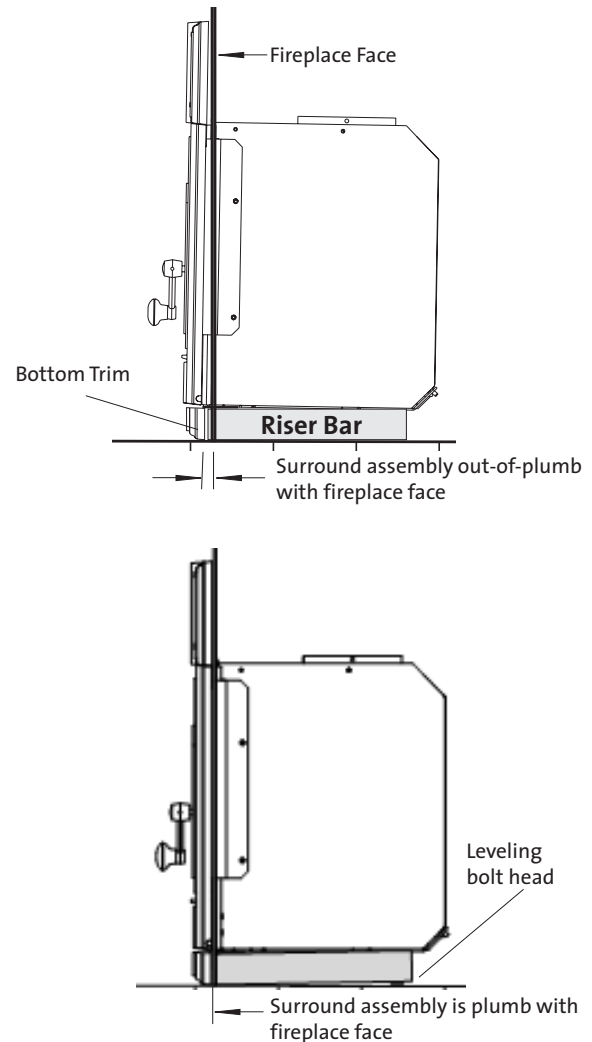

Figure 9. Using the leveling bolts to adjust surround assembly alignment.
**If you are installing the Bottom Trim section with the Surround assembly, you must use the leveling bolts to level the front-to-back pitch of the firebox or the Surround assembly will be out of plumb.** See fig. 9 below.